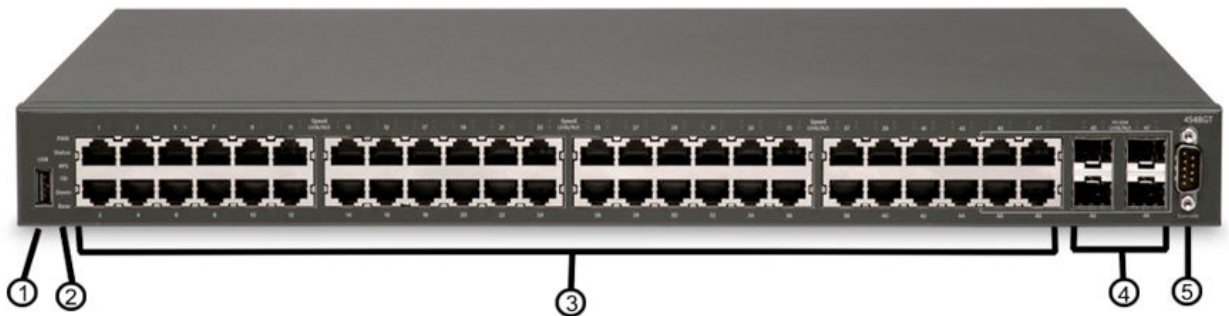

Figure 7: Avaya Ethernet Routing Switch 4548GT
- Figure 7: Avaya Ethernet Routing Switch 4548GT on page 50